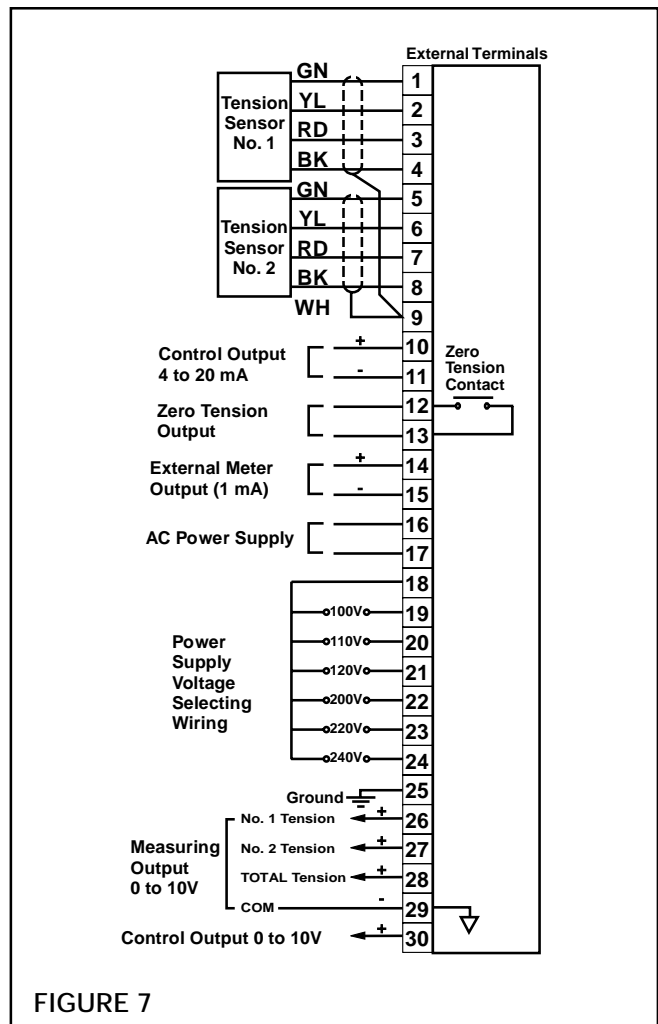

FIGURE 7
NOTE: Use the cables provided with MB, CFL, and S Tension Sensors to connect the sensors to the TM140A. Use 18 AWG wire for all other connections (See Figure 7).
1. Connect the sensor cable for Sensor No. 1 (See Figure 7).